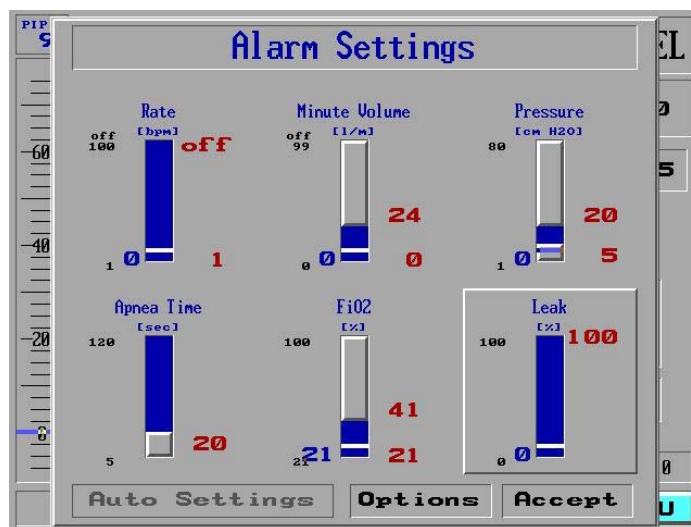

Figure 139: The Leak alarm Slider Selected
3. In the **Alarm Settings** screen, dial the Control Knob until **Leak** is selected in relief (Figure 139).